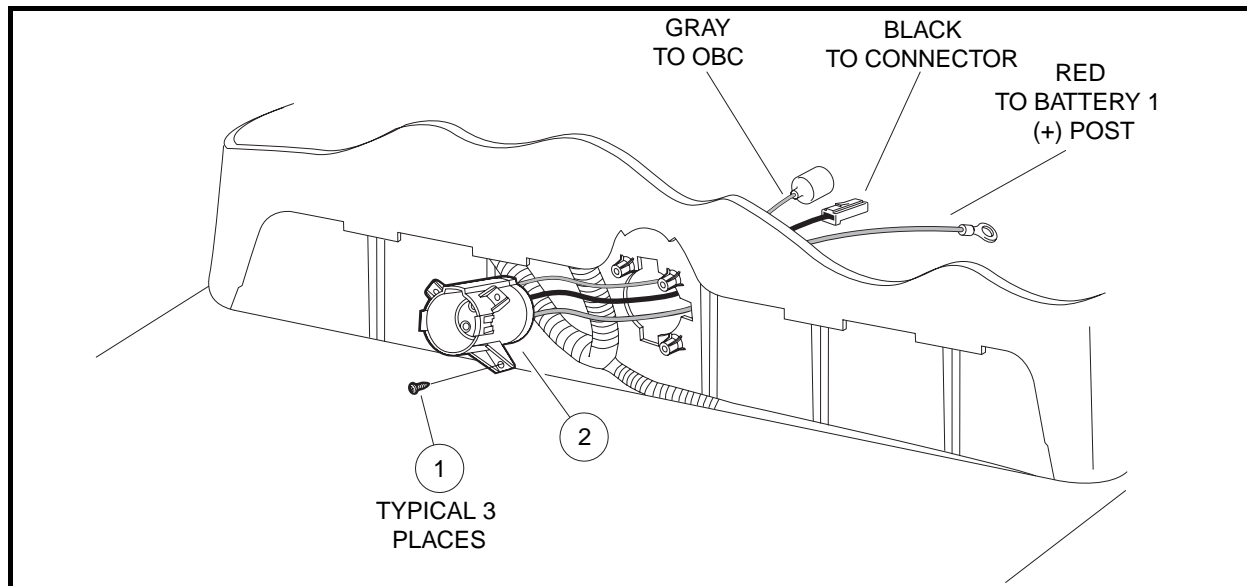

Figure 12-11 Charger Receptacle
4. Remove the 10-gauge red wire from the positive post of battery no. 1 (**Figure 12-11, Page 12-14**).
7. Remove the three screws (1) that secure the charger receptacle (2) to the bucket.
1. Insert the wires through the hole in the bucket (**Figure 12-11, Page 12-14**).
2. Insert receptacle (2) into bucket.
3. Install the three screws (1) that secure the receptacle to the bucket. Tighten screws to 16 in-lb (1.8 N·m).